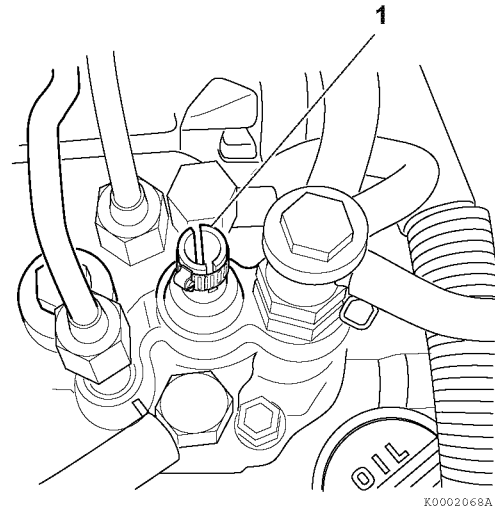
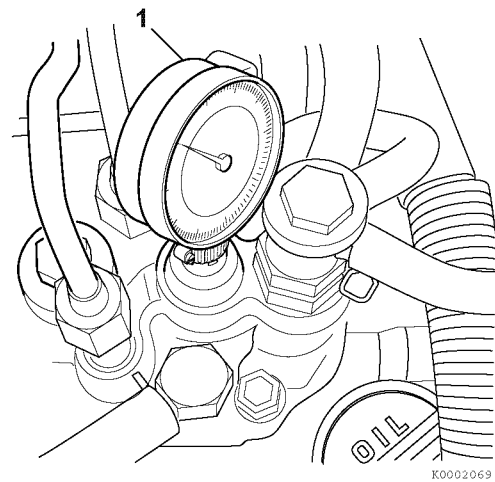

Figure 7-42
Figure 7-43
Note: Use the YANMAR part no. 158090-51831 M14 adapter for the MP2 fuel injection pumps (TNV82 - 88 model engines) or YANMAR part no. 158090-51841 for the M16 adapter used on the MP4 fuel injection pumps (TNV94 - 106 model engines) and YANMAR part no. 23000-013000 plunger adapter clamp (1, **Figure 7-42**).
5. Install a dial indicator (1, **Figure 7-43**), Mitutoyo No. 2050SB or equivalent, with a 30 mm extension, YANMAR Part No. 158090-51870 or Mitutoyo No. 303613, into the adapter. Secure with the YANMAR Part No. 23000-013000 plunger adapter clamp (1, **Figure 7-42**) at approximately the mid-point of its travel.